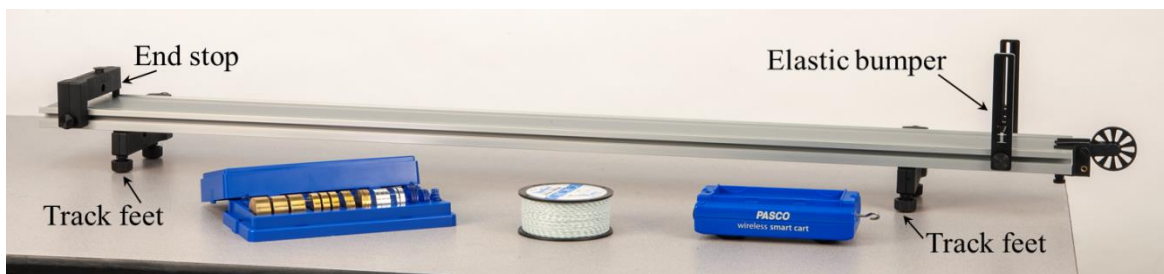
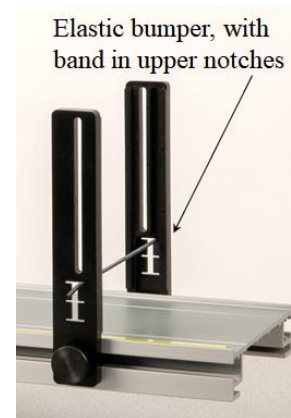

Figure 1: Experimental Setup
Figure 2: Elastic Band in Upper Notches
1. As shown in Figure 1, set up the track with feet underneath at both ends. On the upper side of the track, attach an end stop at one end, and an elastic bumper with the elastic band in the upper notches (see Figure 2) at the other end.